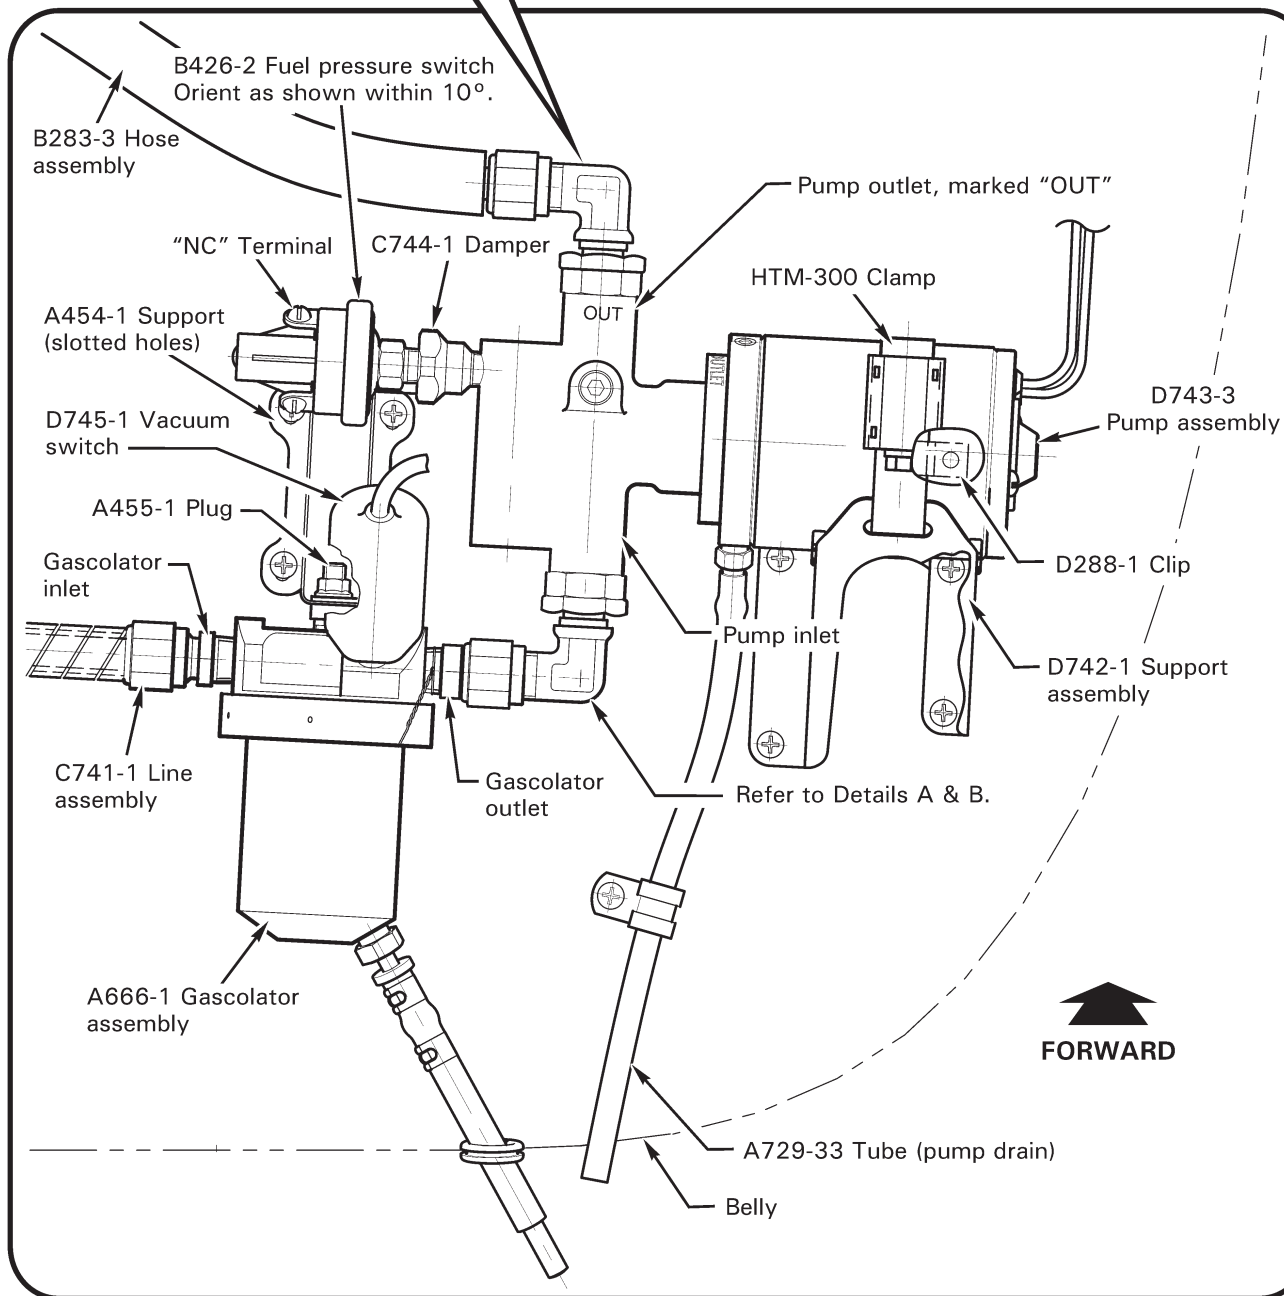

FIGURE 12-7 GASCOLATOR ASSEMBLY AND (R44 II) AUX FUEL PUMP INSTALLATION
2. Refer to Figure 12-7. Clean exterior of gascolator, D743 electric (aux) fuel pump (R44 II), attached fittings, C741-1 line assembly, and B283-3 hose assembly.
1. Refer to Figure 12-7. As required, install fittings in D743 aux fuel pump assembly per the following:
- a. Refer to Figure 12-7 Detail A. Install (new) B330-25 palnut, D452-6 nut (orient counterbore as shown), and D454-6 retainer on elbow or tee; press retainer completely into counterbore of nut. Lubricate (new) MS29512-06 packing using A257-6 grease and install as shown; turn nut and palnut down by hand so packing is against lower threaded section of fitting.
- b. Screw fitting into aux pump; ensure nut and palnut rotate with fitting until packing contacts pump (indicated by a sudden increase in torque). Hold nut and palnut with wrench and screw fitting into pump one-half turn, plus one turn maximum; align inlet elbow parallel to pump motor axis and align outlet fitting per Figure 12-7 Detail B to pump motor axis. Hold fitting with wrench, special torque D452-6 nut per § 23-33, special torque palnut per § 23-33, and torque stripe per Figure 2-1.